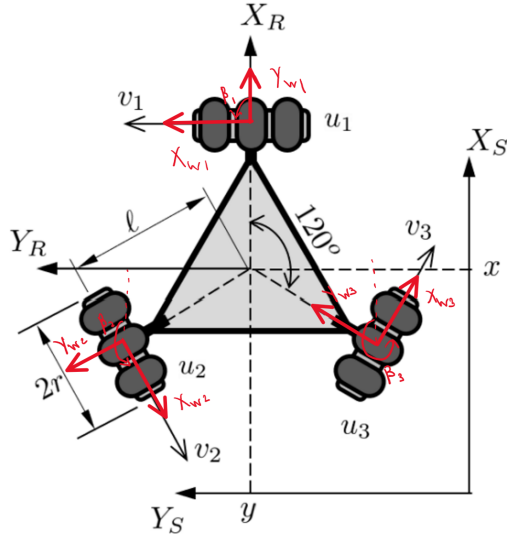

Figure 5: 3-Omnidirectional robot wheel frame assignments.
- (a) To derive the equations of motion for the 3-wheel omnidirectional robot, we define the coordinate frames and geometric parameters as shown in Figure 5.
- The wheel orientation angles (measured from the positive x-axis of the robot frame to the positive x-axis of the wheel frame, shown in Figure 5) are separated by  $120^\circ$ :